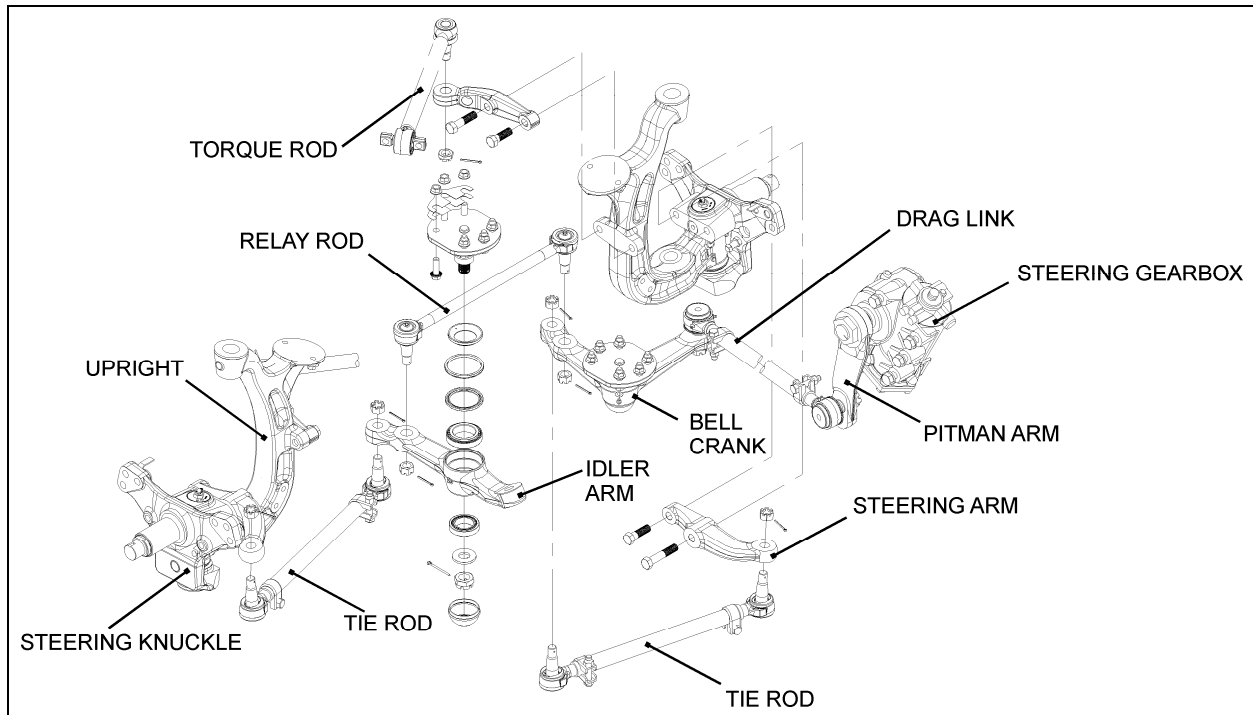

FIGURE 11: IFS STEERING LINKAGE OVERVIEW
2. While performing a full left and right turn, check for proper position of the tie rod end clamp bolt and nut and drag link end clamps in order to avoid clamps interfering with close parts. Refer to figure 11 for location